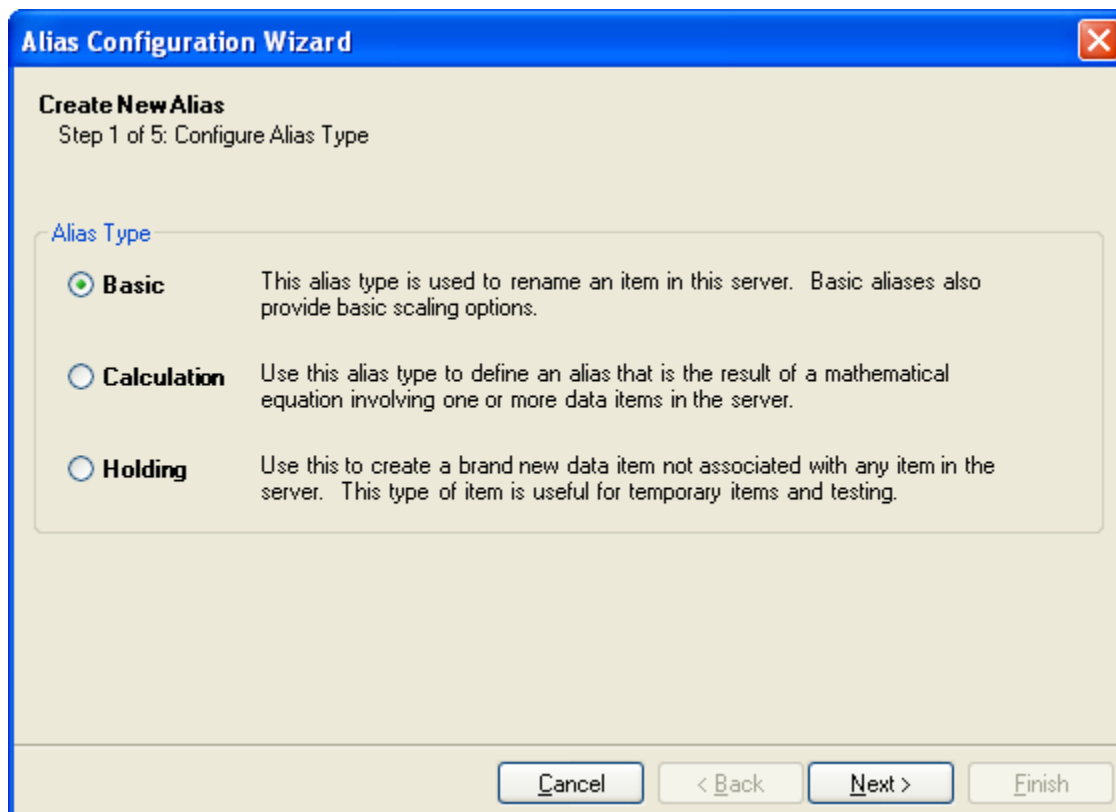

Figure 26 - Alias Configuration Wizard - Step 1: Alias Type
2. The **Alias Configuration Wizard** (Figure 26) appears. The wizard provides the necessary guidance to create your own Alias.
Figure 27 shows the **Alias Identity** configuration step when the **Basic** Alias configuration option has been selected in **Step 1** of the **Alias Configuration Wizard** (Figure 26).